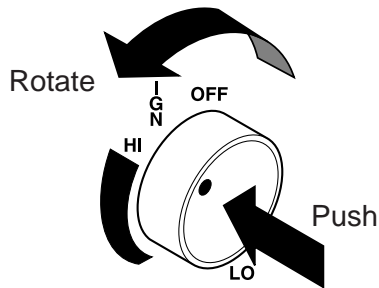

Figure 34 - HIGH Position
10. Push in control knob and turn counterclockwise to the HIGH setting. At this location the control knob will pop out when positioned correctly. The knob can now be positioned at any position between HIGH and LOW. Refer to *Figures 34 and 35*.